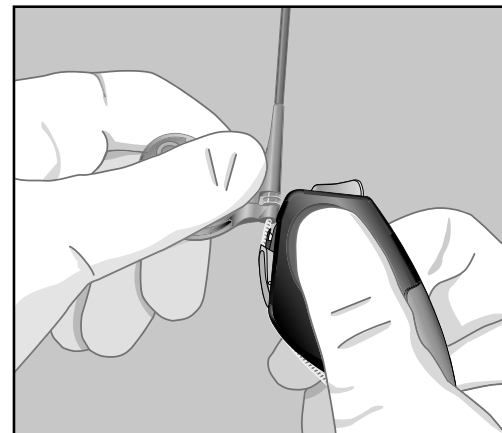

Fig. 4: Hold the slitter tool level with the catheter handle. Pull the catheter parallel to the edge of the slitter tool against the blade.
**Note:** When using the slitter tool, make sure that the guiding catheter moves straight along the slitter tool (Fig. 4). If the slitting procedure requires an unusual amount of effort or other signs of problems occur while slitting the catheters, resume slitting or reclamp the lead or replace the slitter tool with a new one and then continue slitting.